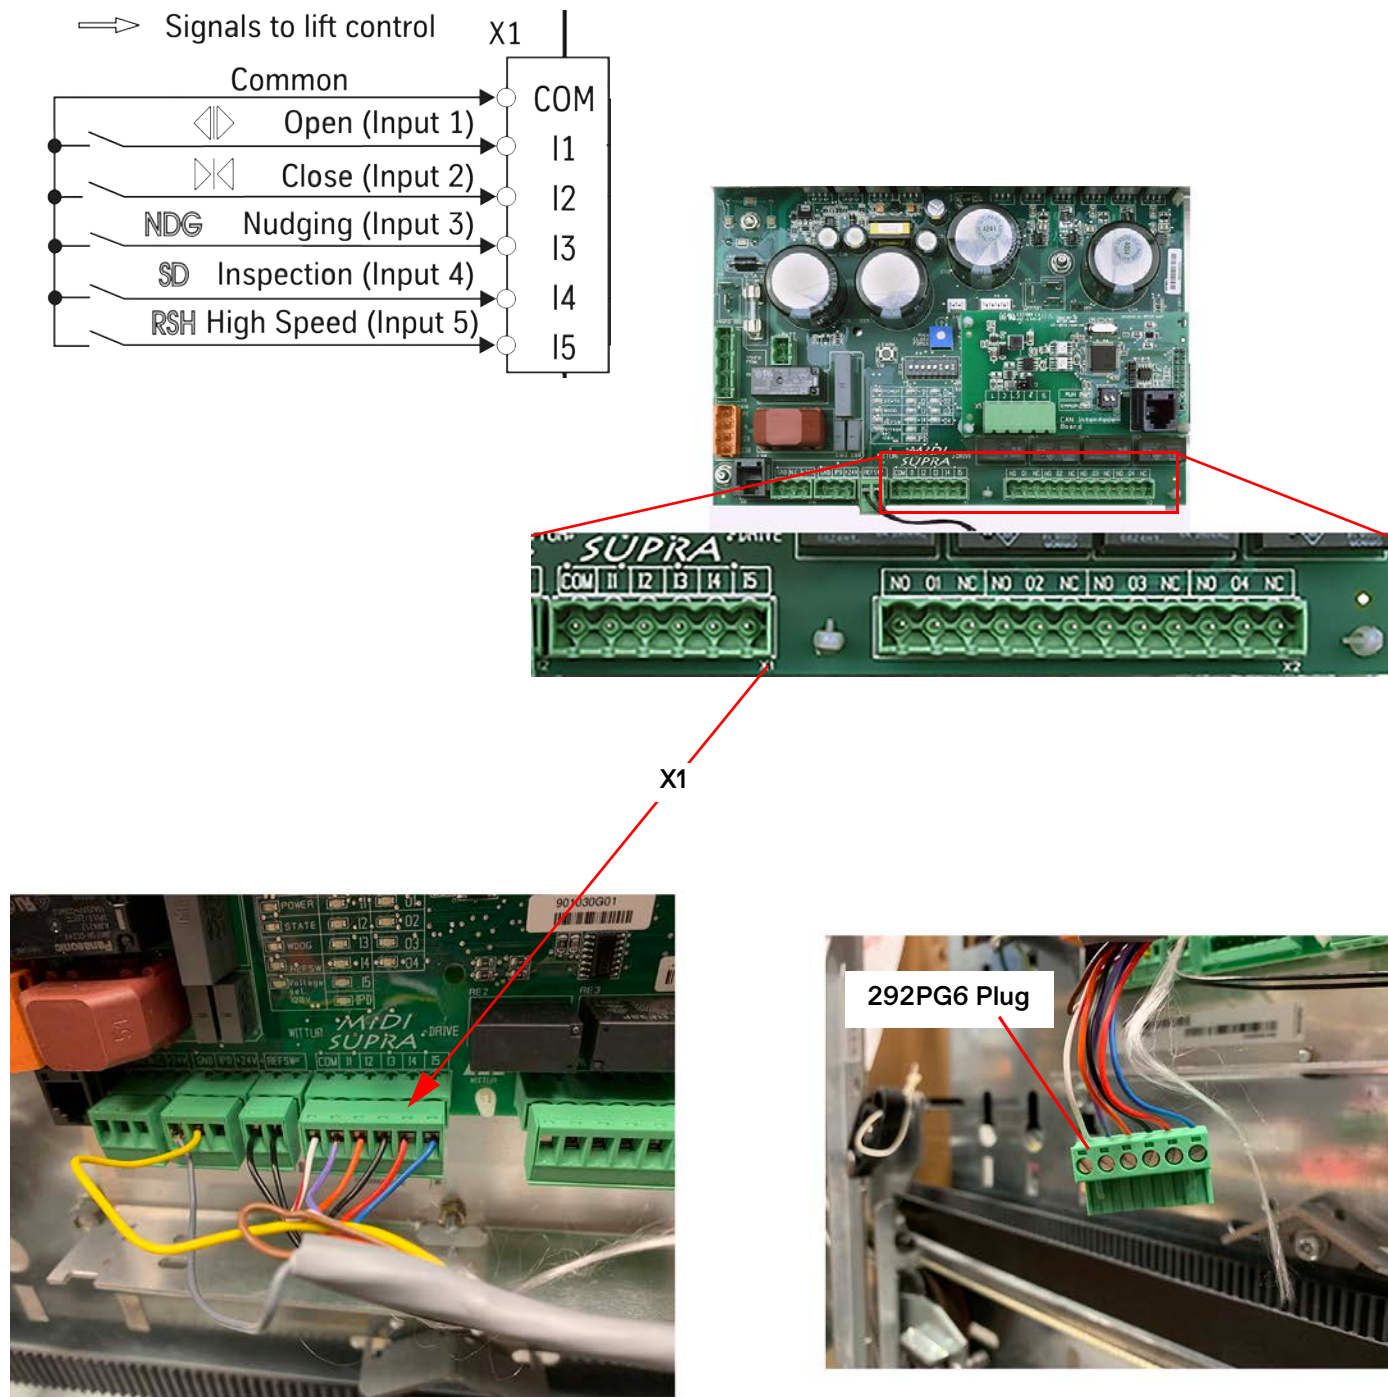

Figure 30 - X1 Inputs on Door Board
See Figure 30 on page 43 for all steps in this procedure.
3. Use plug 292PG6 as the male portion of X1 and install wires in the plug to correspond with the inputs in Figure 30.